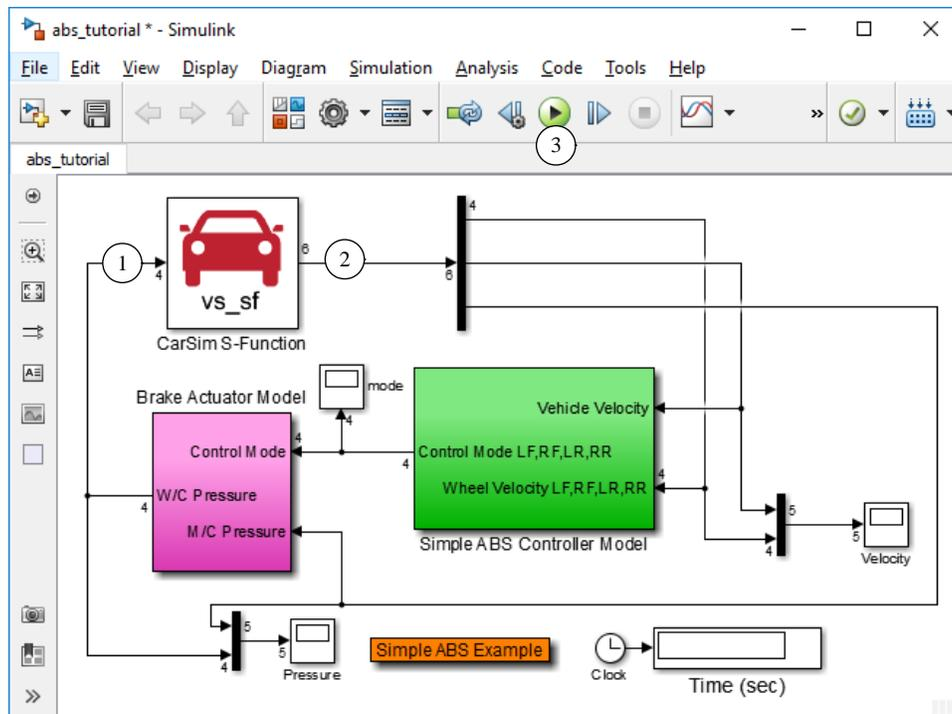
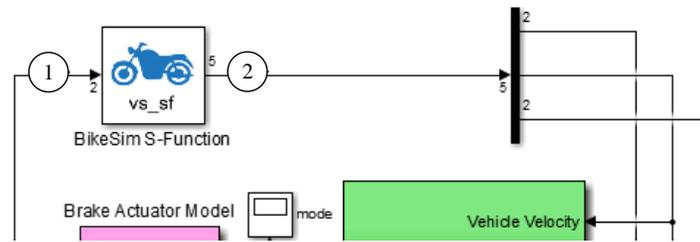

Figure 37. Simulink model with connections to the CarSim S-Function.
Figure 38. Simulink model with connections to the BikeSim S-Function.
10. Click the **Send to Simulink** button (2). The VS Browser will again load the Simulink model (Figure 37), using updated connection information.
11. Display the signal dimensions. Note that Figure 37 shows four imports (1) and six exports (2) (CarSim and TruckSim), matching the setups made earlier with the Import and Export datasets. Figure 38 shows similar information for BikeSim (two imports (1) and five exports (2)).
12. Run the model from Simulink by clicking the Play button (3) (Figure 37) and confirm that the same results are obtained as were seen in the original example.
Now that the link between the vehicle model and the Simulink model has been specified and confirmed, we will look at the S-Function block in the Simulink model shown in Figure 37.
In comparing the multiport version to the single-port version shown earlier (Figure 37, page 20), you see the same blocks for the Brake Actuator Model (8), the ABS Controller Model (9), and the CarSim S-Function (6). However, in the multiple-port case, there are four import ports for CarSim (5) and three export ports (7).